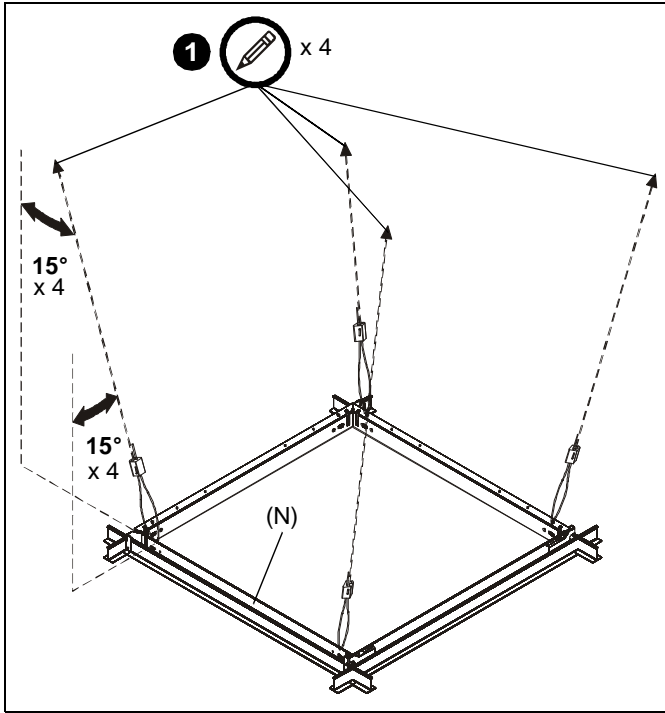

Figure 4
1. Examine ceiling structure (concrete, steel truss, or wood) above CMS490 frame (N) to identify four support cable anchor locations. Each location should be approximately 15° outside of support holes in CMS490 frame (N). Mark locations with pencil. (See Figure 4).